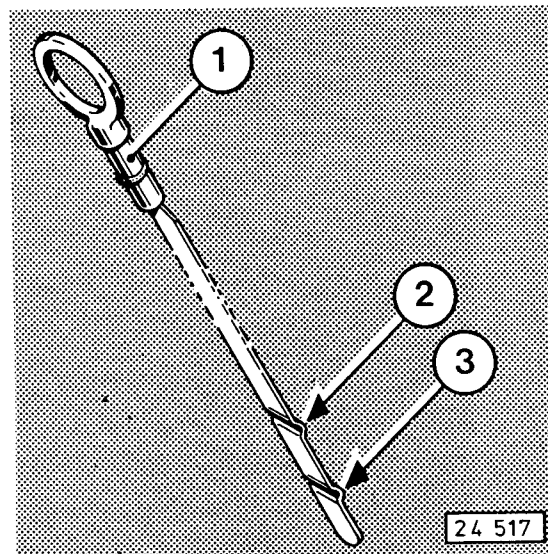

Fig. 33
- Pull out dipstick 1 (Fig. 33).